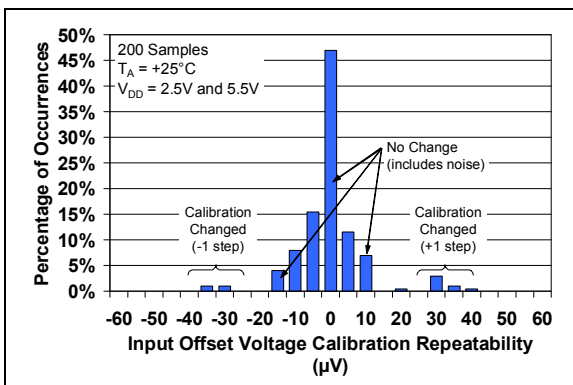

FIGURE 2-3: Input Offset Voltage Calibration Repeatability (repeated calibration).
- 2: Increment between adjacent V_{OS} trim points; Figure 2-3 shows how this affects the V_{OS} repeatability.